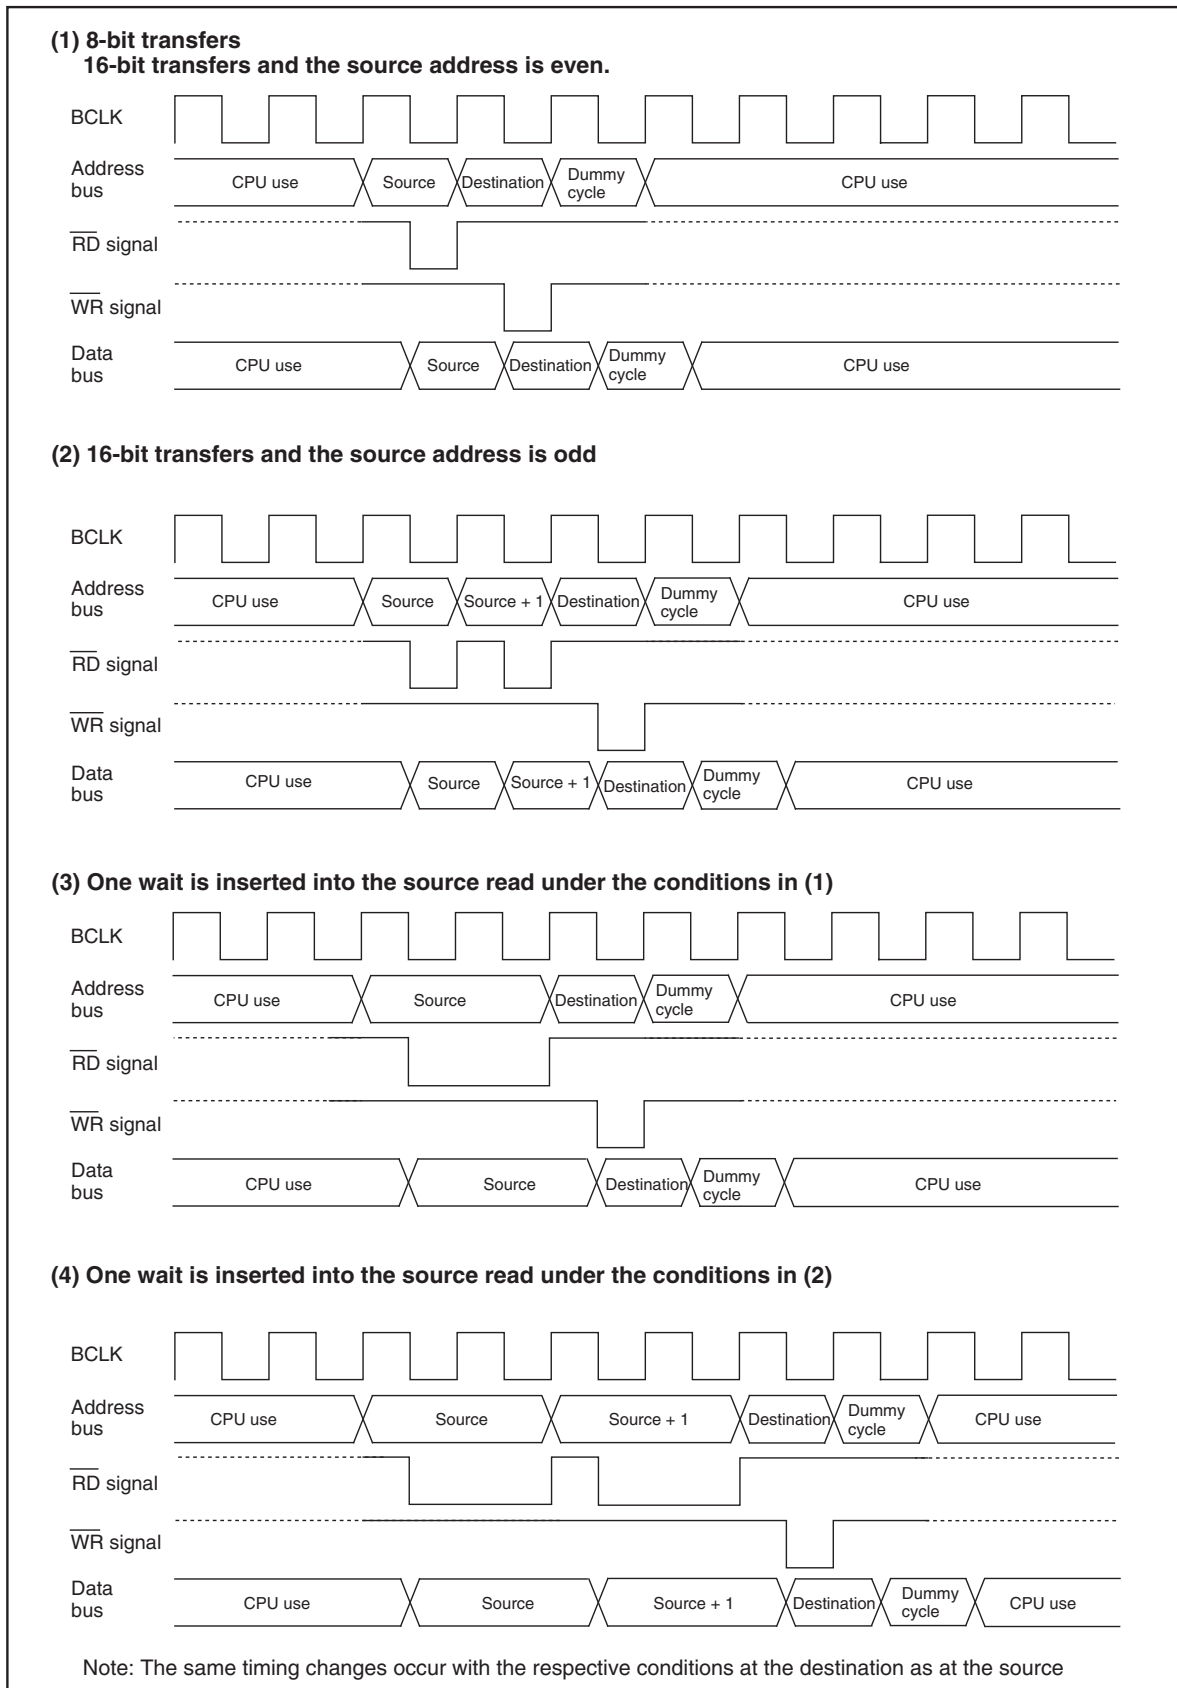

Figure 1.11.5. Example of the transfer cycles for a source read
Figure 1.11.5 shows the example of the transfer cycles for a source read. For convenience, the destination write cycle is shown as one cycle and the source read cycles for the different conditions are shown. In reality, the destination write cycle is subject to the same conditions as the source read cycle, with the transfer cycle changing accordingly. When calculating the transfer cycle, remember to apply the respective conditions to both the destination write cycle and the source read cycle. For example (2) in Figure 1.11.5, if 16-bit data is being transferred from an odd source address to an odd destination address, two bus cycles are required for both the source read cycle and the destination write cycle.